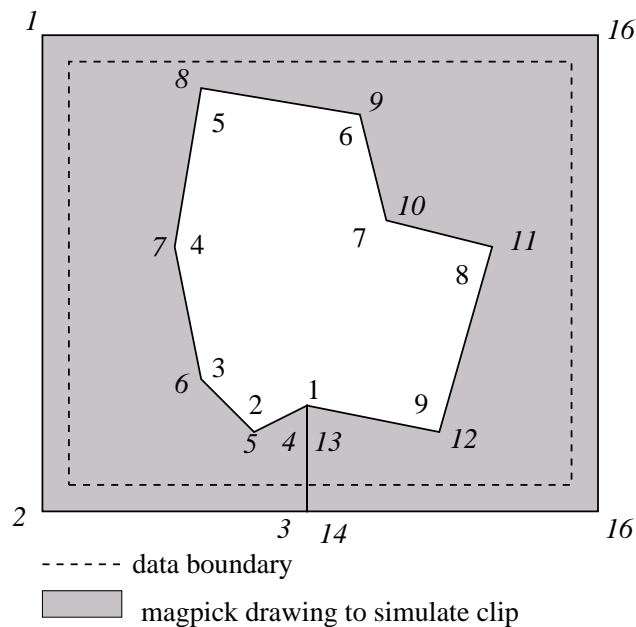

Figure 11: Clipping polygon
4. **Clip.** MagPick does not do real clipping as PostScript does. Do not confuse this type of clipping with grid clipping. Grid clipping changes the data, this feature draws a white polygon of complex shape to simulate clipping of the picture. The clip file itself has the simplest format: it's just two columns of the numbers. The first pair of numbers should coincide with the last pair to have a closed path. The order of points is very important. The points should go *clockwise* (see figure 11).